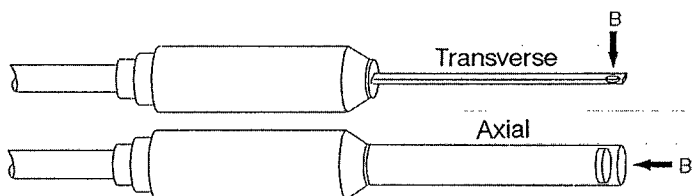

FIGURE 5. Typical transverse and axial Hall probes.
Most Hall probes fall into two categories, (1) *transverse* and (2) *axial*, defined by the direction of flux lines through the probe (Figure 5). In both cases the Hall generator is located near the tip of the stem. Axial probes are generally cylindrical with diameters down to 0.060" (1.5 mm).